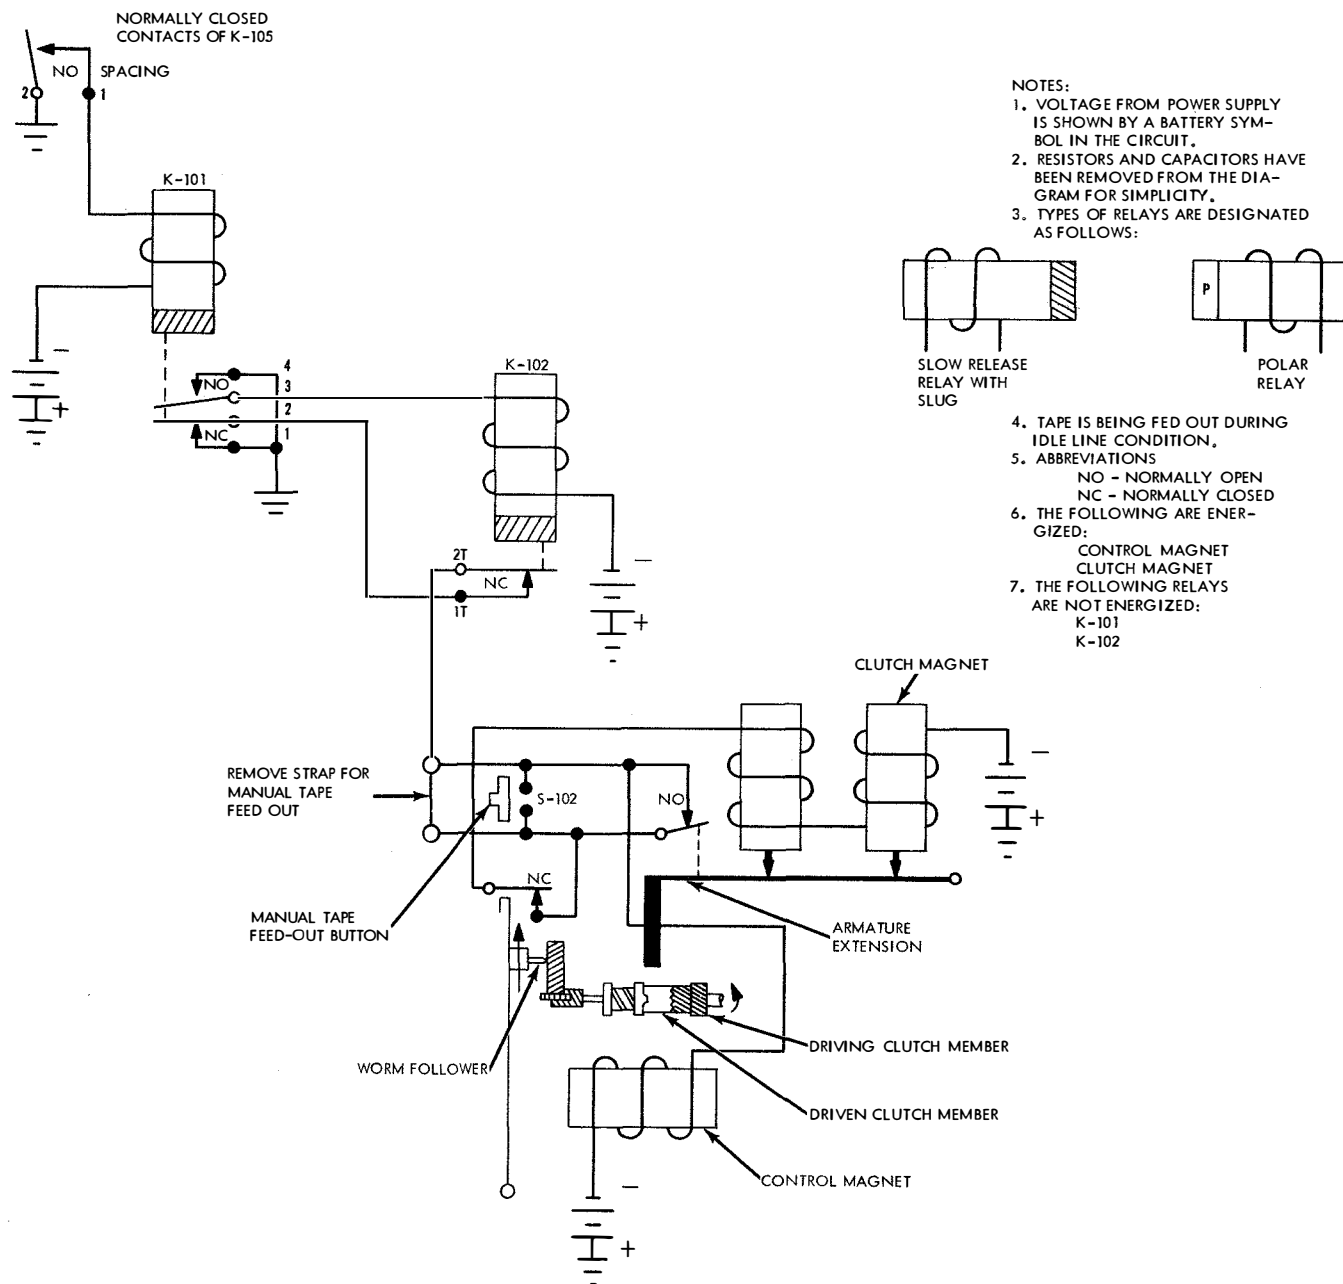

Figure 2-4. Receiver Groups OA-616/FGC-38, OA-619/FGC-38X, and OA-622/FGC-39 Tape Feed-out Circuit, Simplified Schematic
slow release time of K-102 has passed, it restores. The tape feed-out clutch magnet and control magnet of the typing reperforator then operate through the normally closed contacts of K-101 (1 and 2) and K-102 (1 and 2). Thus, clutch and control magnets operate only after the two relays, K-101 and K-102, restore. (For explanation of the tape feed-out circuit see paragraph 3*d* (15) of this section. This automatic tape feed-out mechanism may be changed to manual push-button feedout if a strap on the receiver group terminal block is removed (see figure 2-4). The timing diagram (table 2-1) illustrates the sequence of the above operations.